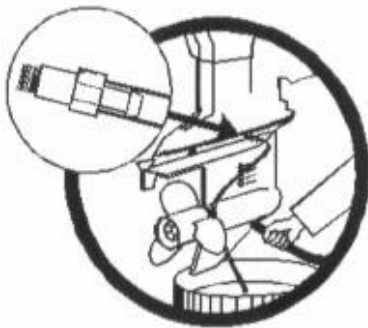

Fig. 1
2. After draining the lower unit as you normally would, install the check valve and the long clear hose assembly into the upper vent hole (See Fig. 1). We recommend that you put the hose end into a recovery container.
4. Thread the nozzle into the lower hole (as shown in Fig. 1) and turn the valve lever on.